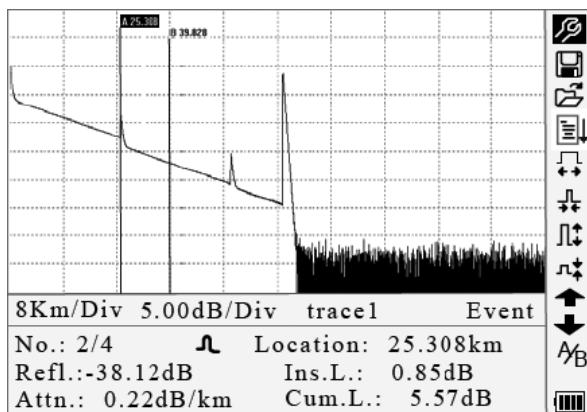
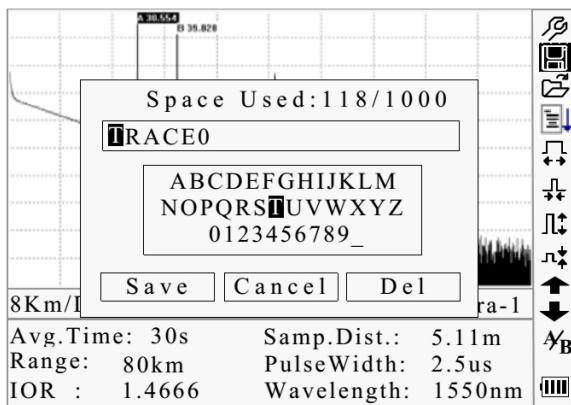
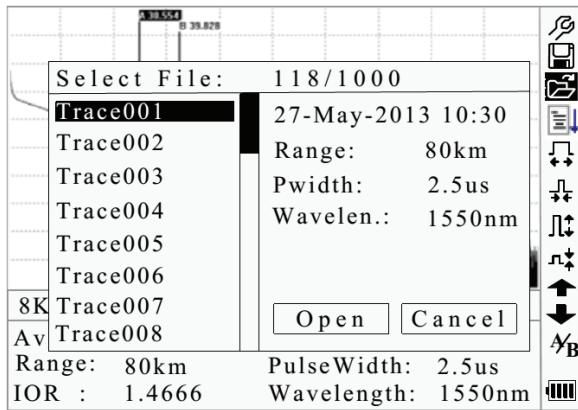

Figure 4-4. Trace Measurement
Figure 4-6. Save a Trace
Figure 4-7. Browse Saved Traces
Note: After a certain period of time, the trace displays on the GUI. The trace in the figure below is a trace during measurement, which will be refreshed for every certain period of time to demonstrate the whole process in realtime. But at the end of measurement the trace will be complete, as shown in Figure 4-4.
Under GUI (Figure 4-4) press ↲ and the items in the information window will display in this order: measurement parameters → analysis information → events list → marker A/B information → fiber information → measurement parameters.
Under GUI (Figure 4-4) press ↲ until the events list information appears in the information window.
Under GUI (Figure 4-4) use ▲ and ▼ to highlight ^A/_B, and then press Enter to switch between marker A/B.
Under GUI (Figure 4-4) press ↵ to switch information window to marker A/B information.
1. Under GUI (Figure 4-4) use ▲ and ▼ to highlight ⌂, and then press Enter to zoom out the trace horizontally.
Under GUI (Figure 4-4) use ▲ and ▼ to highlight ⌂, and then press Enter to zoom out the trace vertically.
1. Under GUI (Figure 4-4) use ▲ and ▼ to highlight ⌂, and then press Enter to zoom out the trace vertically.
Under GUI (Figure 4-4) use ▲ and ▼ to highlight ⌂, and then press Enter to zoom in the trace vertically.
1. Under GUI (Figure 4-4) use ▲ and ▼ to highlight ☐, and then press Enter to enter (Figure 4-6).
1. Under GUI (Figure 4-4) use ▲ and ▼ to highlight , and then press Enter to confirm (Figure 4-7).